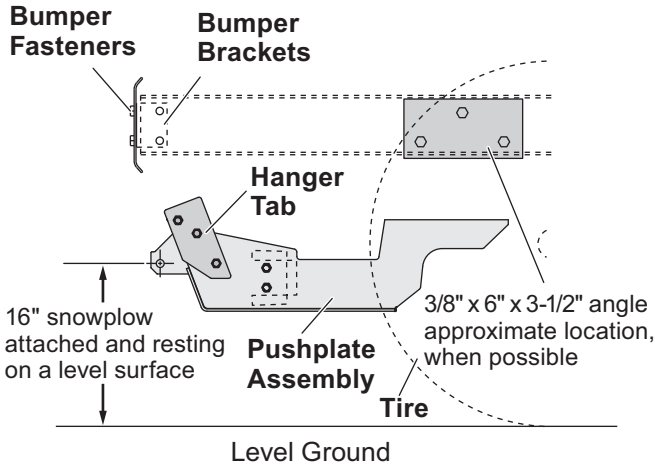

Figure 1
- Position the assembled unit under the vehicle and center between the wheels. The desired position of the connecting pin hole is 16" from ground and 2" behind front bumper. The bottom surface of the pushplates must be parallel to the ground (see Figure 1).